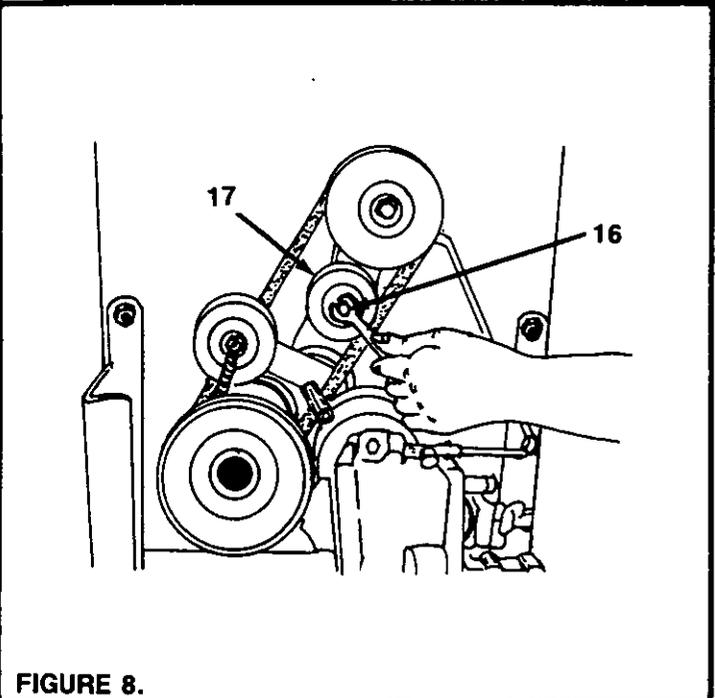

FIGURE 8.
10. Remove the idler pulley by removing the hex lock nut. See figure 8.